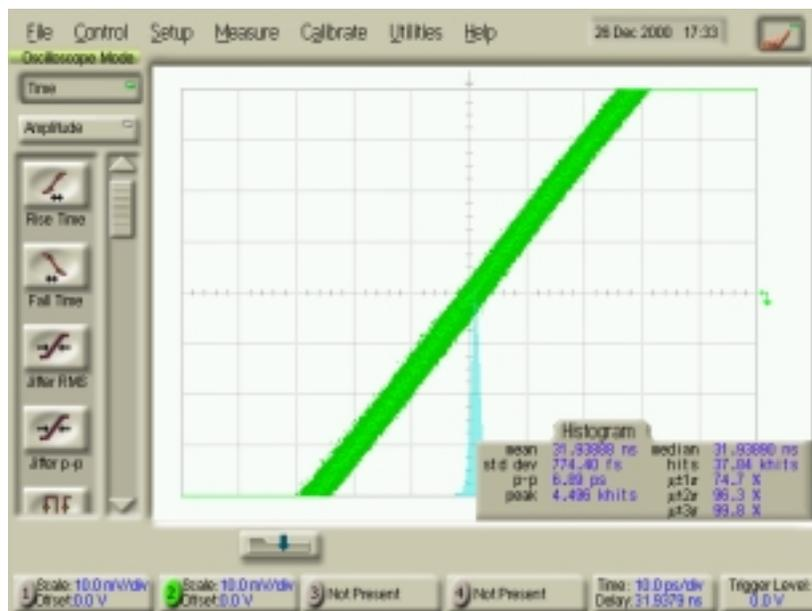

Figure 2-14. Histogram Setup
- 23 The display should appear as shown in Figure 2-14.